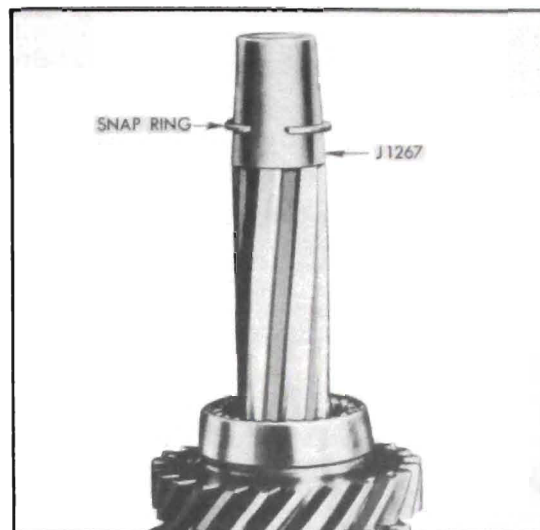

Figure 4-38—Snap Ring Replacer J 1267
(8) *Main Shaft Snap Ring.* Use Snap Ring Replacer J 1267 to install the snap ring and avoid distorting ring. See figure 4-38.